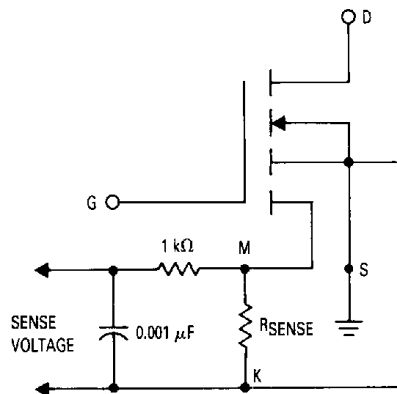

Figure 21. SENSEFET with Noise Suppression
- **Noise Suppression:** Switching noise is also a first order design issue. Layout, therefore, is critical. In addition, a single pole RC filter between  $R_{SENSE}$  and the current sensing circuitry's input terminals is often desirable. A 1  $\mu$ sec time constant is generally long enough to provide adequate noise suppression and short enough to provide adequate protection during overloads. An illustration is provided in Figure 21.